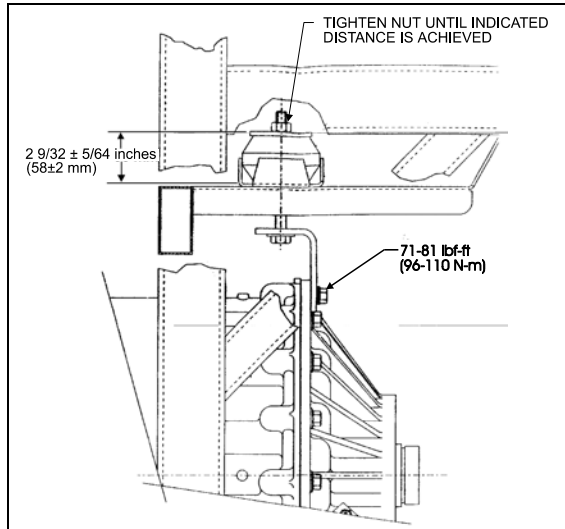

FIGURE 17: RUBBER DAMPER TOLERANCE
- a) Install transmission bracket (Fig. 17), tighten to 71-81 lbf•ft (96-110 N•m).
- c) Respect damper tolerance of 58 mm (Fig. 17)